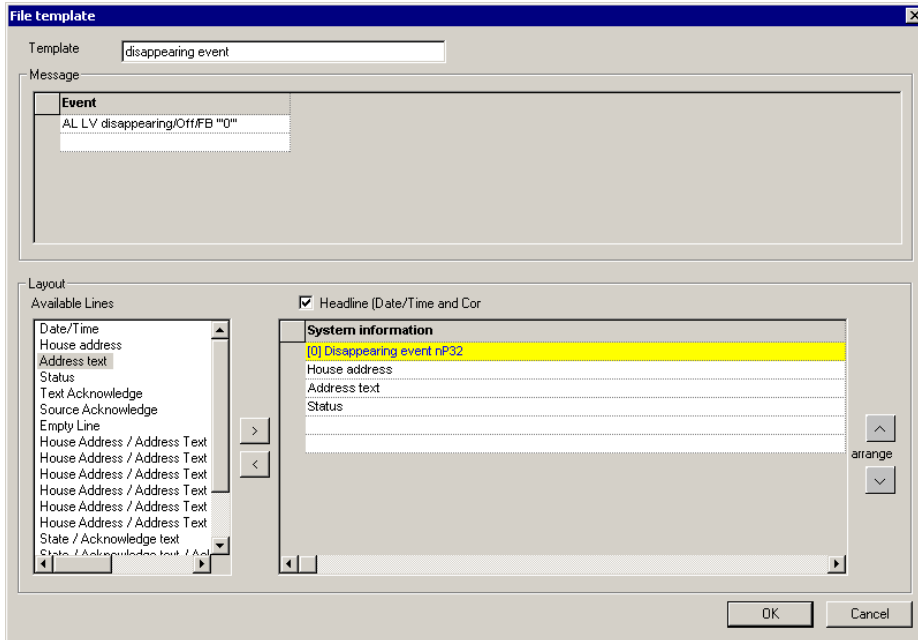

Fig. 7-43: File template
- Name the template in the "Template name" box (see Fig. 7-43).
You have to specify the contents of the message in the „Layout“ box. Tick the Option "Headline (Date/Time and Comment) " to show the headline (yellow background) "Message from Building ... ". This text can then be edited and should be shortened. (See Fig. 7-43).